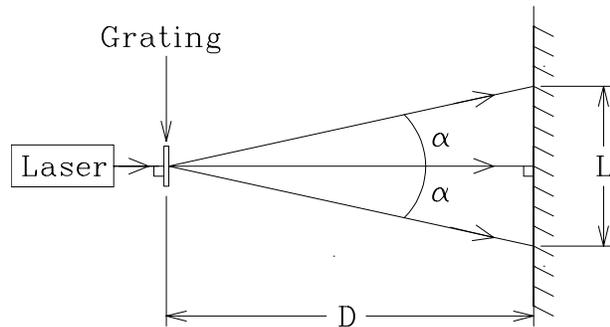

Figure 5.1: Experimental setup for Part 1.
- Check that the screen and grating surface are perpendicular to the incident beam, and measure the distance D between the grating and the screen, as shown in Figure 5.1.
- With L and D measured, the relationship between these variables and the angle α in Figure 5.1 is given by